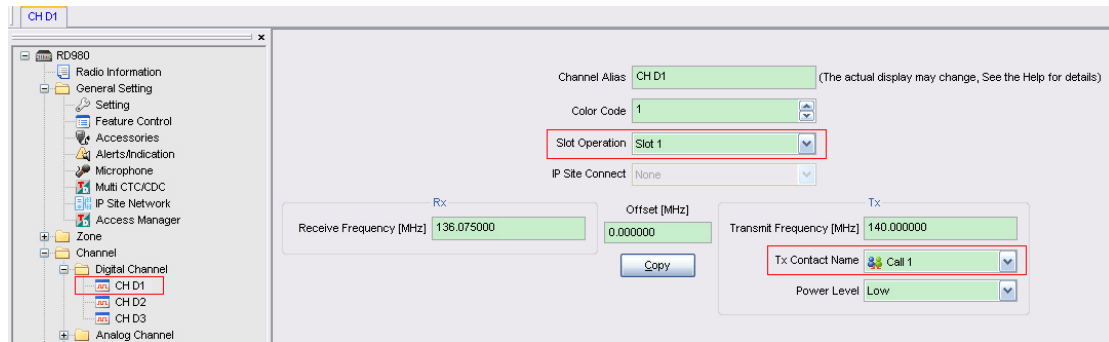

Figure 5.3-2 Digital Repeater Configuration 2
6) Go to “Channel -> Digital Channel” and select the channel which the repeater is working on. Select the right slot from the option “Slot Operation”: slot 1 for slot A (PIN24), and slot 2 for slot B (PIN25). See Figure 5.3-2.
7) From the dropdown box “Tx Contact Name”, select your desired contact, which will be used for repeater reception and transmission. At present, only one contact is supported. See Figure 5.3-2.